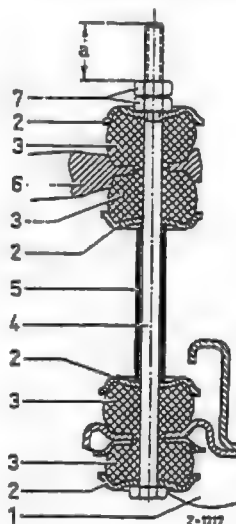

Fig. 32-6/5
5. Fasten the torsion bar to the lower control arms taking care to ensure that the rubber buffers and the cup washers are properly arranged. Screw on the hexagon nuts (7) in such a way that the prescribed initial stress of the rubber buffers is obtained; for this purpose measure the distance "a" from the screw end to the upper hexagon nut. (For dimensions see Table in Job No. 32-0). Then lock the two hexagon nuts (Fig. 32-6/5).